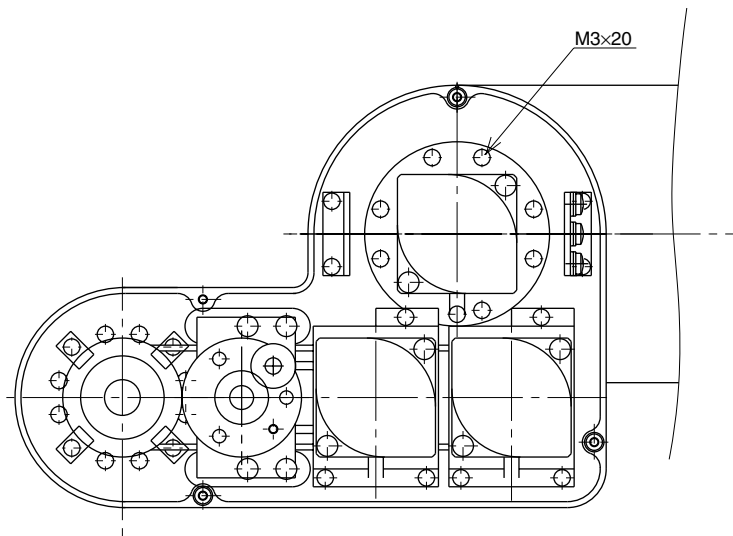

Fig. 5-7
- 6) Remove the Y-axis arm installation bolts (M3×20L, 8 pieces). (See Fig. 5-7.)
- 17) Secure the Y-axis arm to the harmonic drive with the bolts (M3×20L, 8 pieces) you removed earlier. Apply small amounts of “Screw Lock” to the bolts and tighten them uniformly to secure the Y-axis arm. (See Fig. 5-7.)